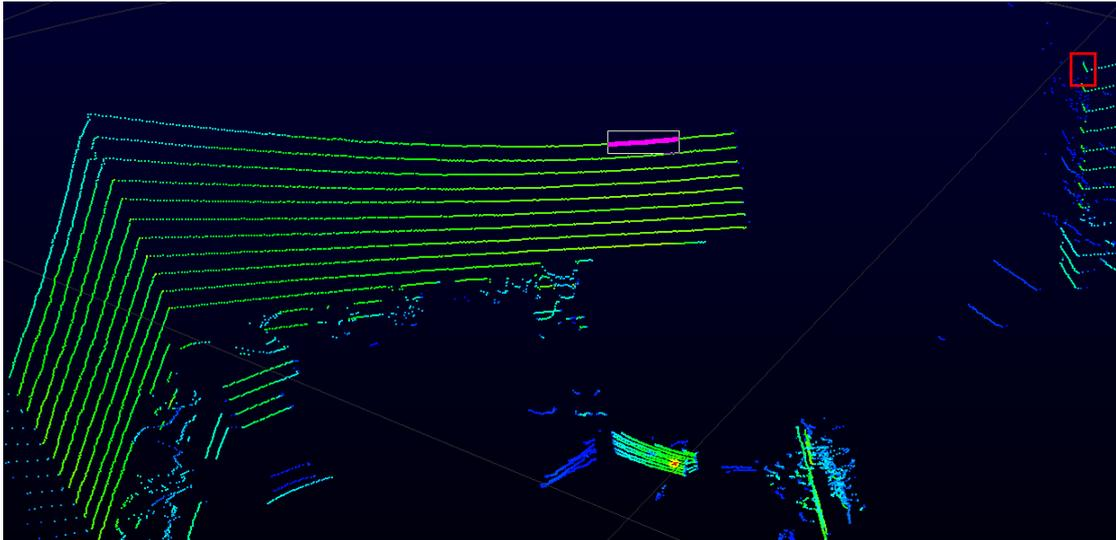

Figure C-13 RSView List Selected Points Tool
9. In the 3D rendered data pane, use your mouse to draw a rectangle to frame some data points. The data of these points will immediately populate the Spreadsheet and the selected data points will turn pink in the data pane (Figure C-13).